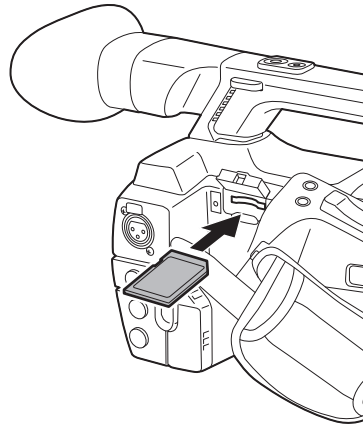

Fig. 2
**2** Insert the SD memory card into the SD memory card slot with the label side of the card upward, and close the slot cover. (Fig. 2)